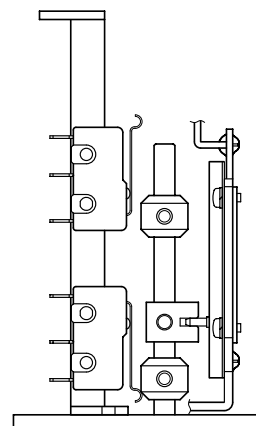

Figure 10-2. Lowering Side Adjustment
- After setting to the lowering position as shown in figure 10-2, adjust the dog (on the output stem lowering side).